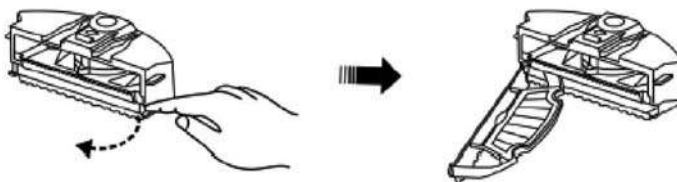

Figure 6
- 4) Open the bracket and the filter will appear (Refer to Figure 6).